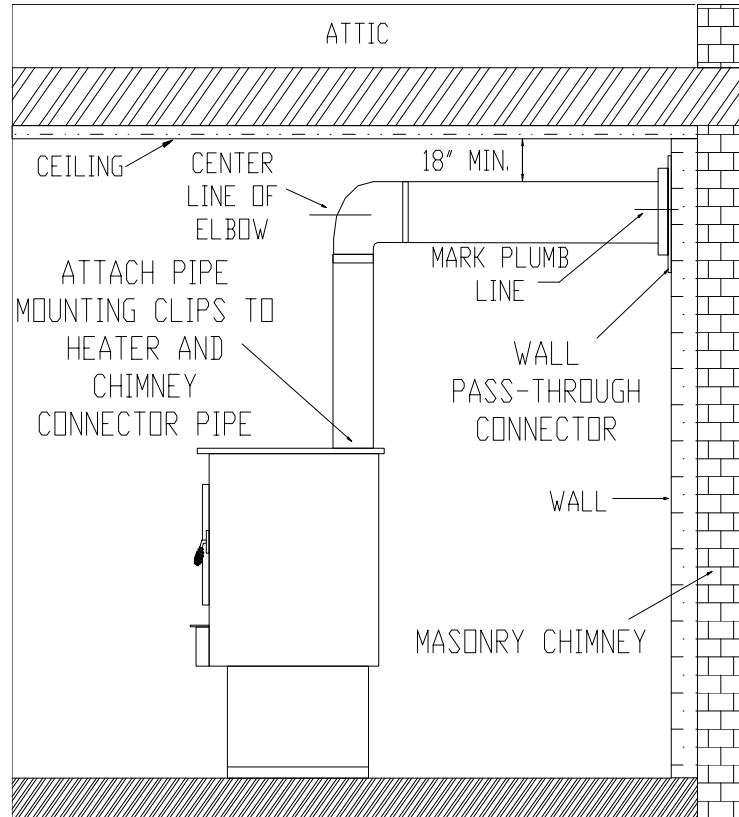

FIGURE 10
- Measure up so there will be at least 1/4" rise per foot of horizontal connector pipe, maintaining clearances to ceiling as noted in Figure 10. This will give you center of hole for chimney penetration.